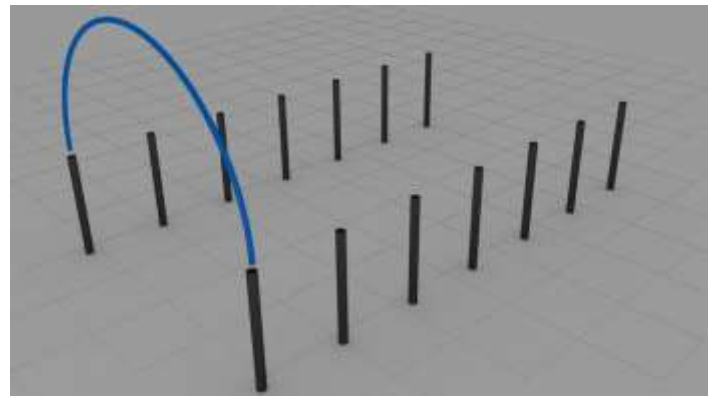

Fig 3.1 Bow Installation
- After bows have been assembled, raise upright and place ends in ground stakes(Fig 3.1).